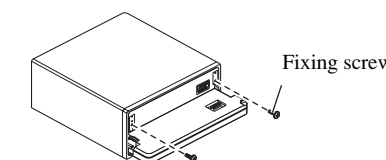

Fig. 14
**4. Fix the front panel to the unit using fixing screws. (Fig. 14)**